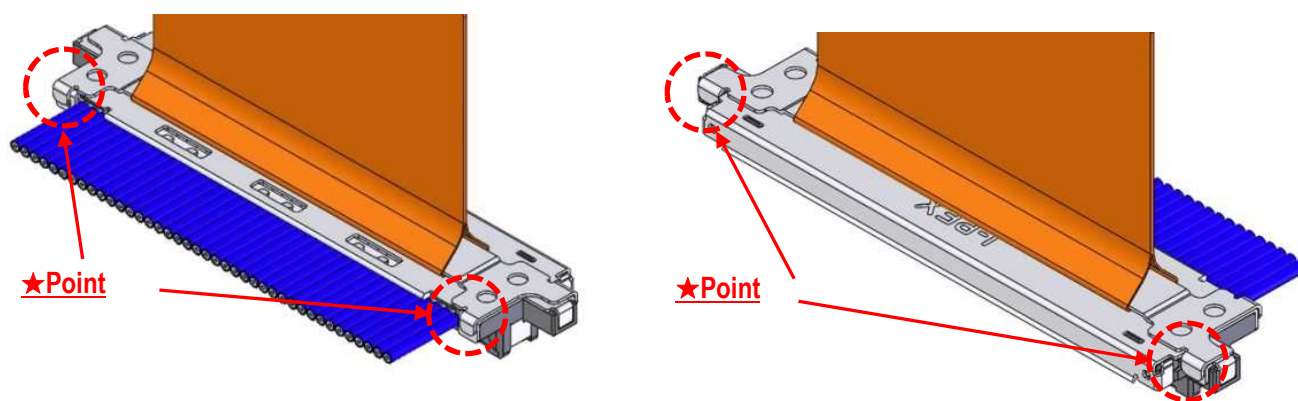

Fig.12 The assembly confirmation of PULL TAPE HOLDER
- ② Make sure that PULL TAPE HOLDER is assembled properly.(Fig.12★point)